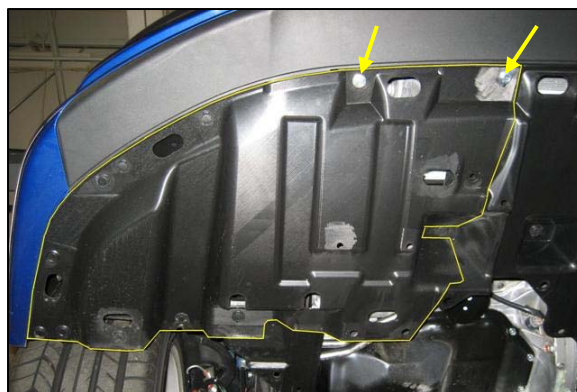

Fig. 3
3. Then remove the passenger side front cover, which is secured by 2 bolts and plastic clips. This cover is shown outlined in figure 3, with bolt locations shown by arrows (2 bolts, clips, 10mm socket, screwdriver).